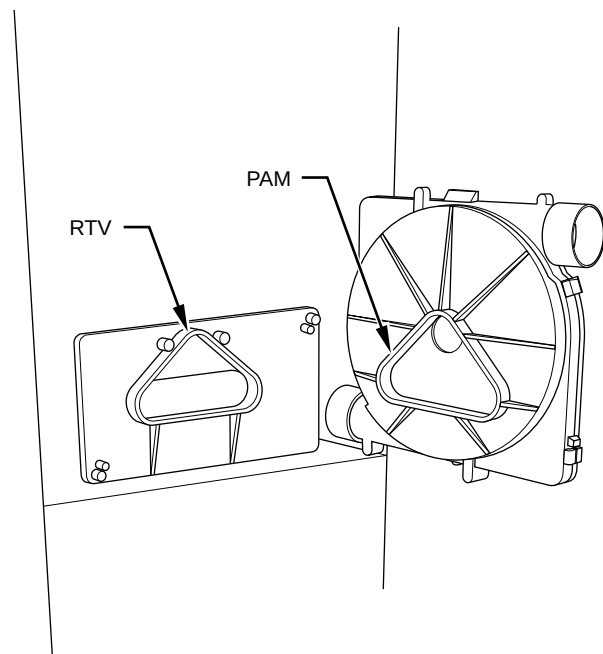

Fig. 2—Inducer Housing to Collector Box Gasket ^{A93081}
1. Inspect seal on collector box. (See Fig. 2.)